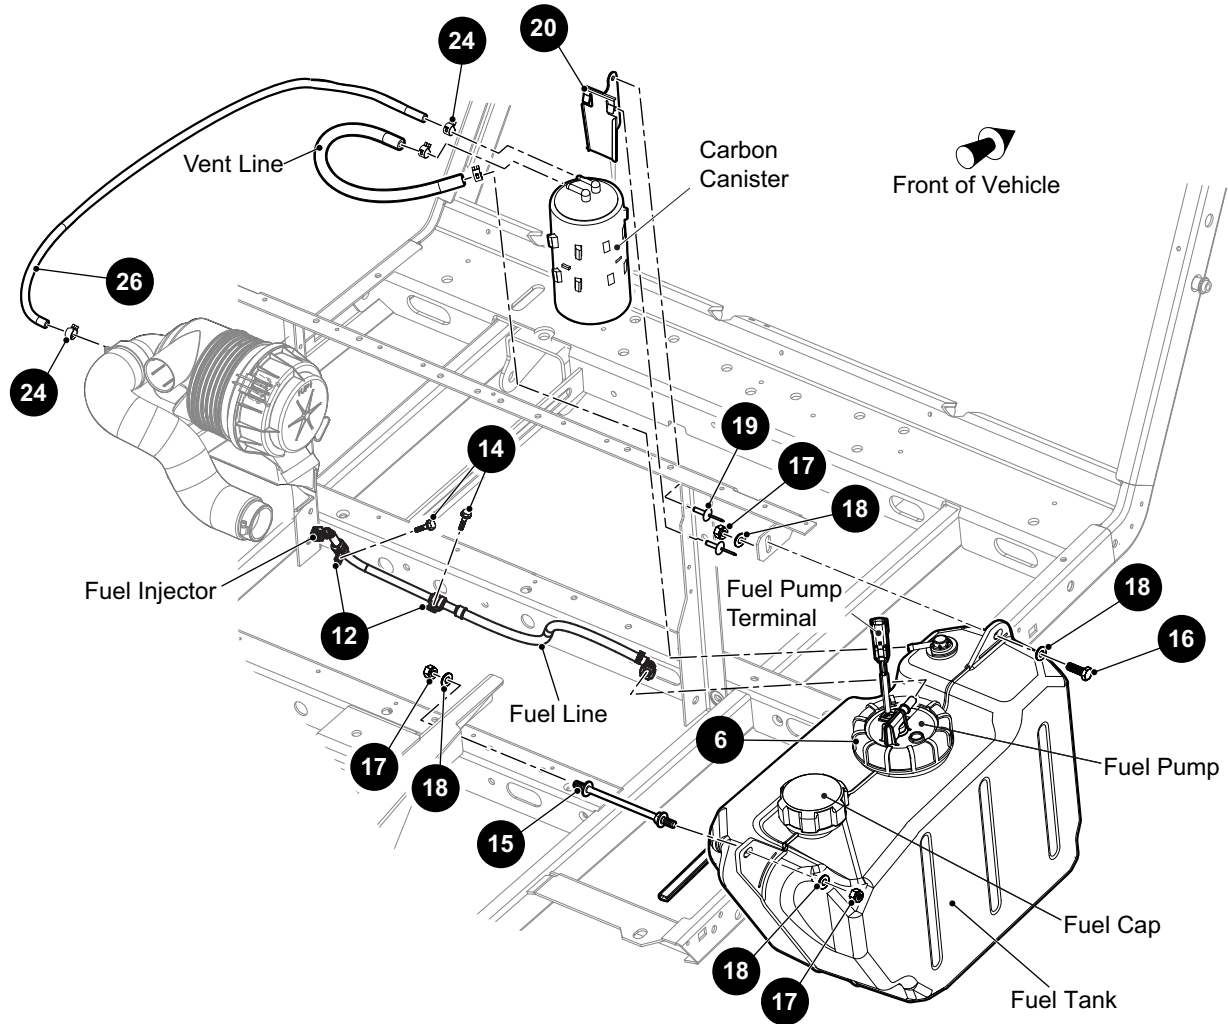
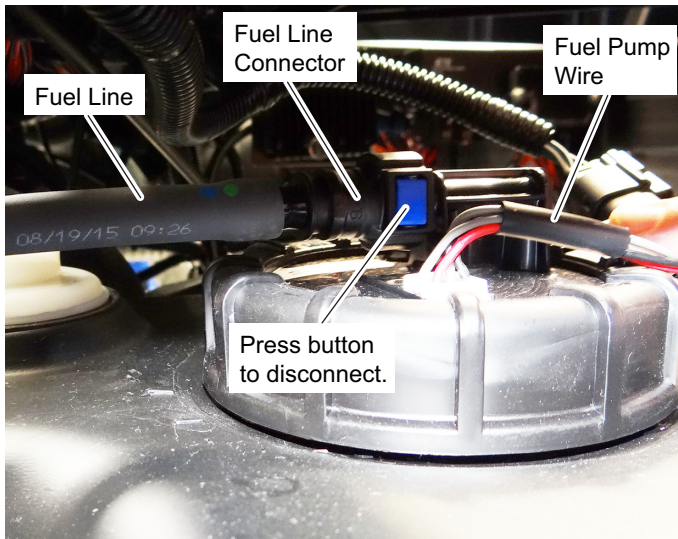

Fig. 1 Fuel System
Fig. 3 Fuel Tank Connections
An electric fuel pump supplies fuel from the fuel tank to the engine injection system through the fuel line (See Fig. 1). The fuel filter is located in the fuel tank along with the fuel pump.
The fuel tank, fuel line, vent line and fuel tank cap should be checked frequently for leaks, clogs or damage (See Fig. 1).
4. Disconnect the fuel line from the tank by pressing the button on the fuel line connector while pulling the connector away from the tank (See Fig. 3). Plug the fuel line to prevent fuel leakage.
5. Disconnect the tube (12) to the carbon cannister.
6. Remove the forward hex nut (17), washers (18), and bolt (16).
7. Remove the rear nut (17), washers (18) and spacer (15).
9. Installation is in reverse order of removal (Ref. Fig. 1).
5. Remove the screw (14) that secures the fuel line to the engine.
1. To remove the carbon canister (22), disconnect the EVAP hose (12) from the carbon cannister (22) (Ref. Fig. 1).
2. Disconnect the fuel line hose (26) from the carbon canister (22).
3. Press the tabs on the mounting bracket (20) and slide the canister upward.
4. To install the carbon canister (22), position the canister ears above the mounting bracket (20) and push against the bracket and slide the canister (22) onto the bracket past the tabs.
5. Install EVAP hose (12) on the tube closest to the mounting bracket.
6. Install the fuel line hose (26) on the remaining tube.